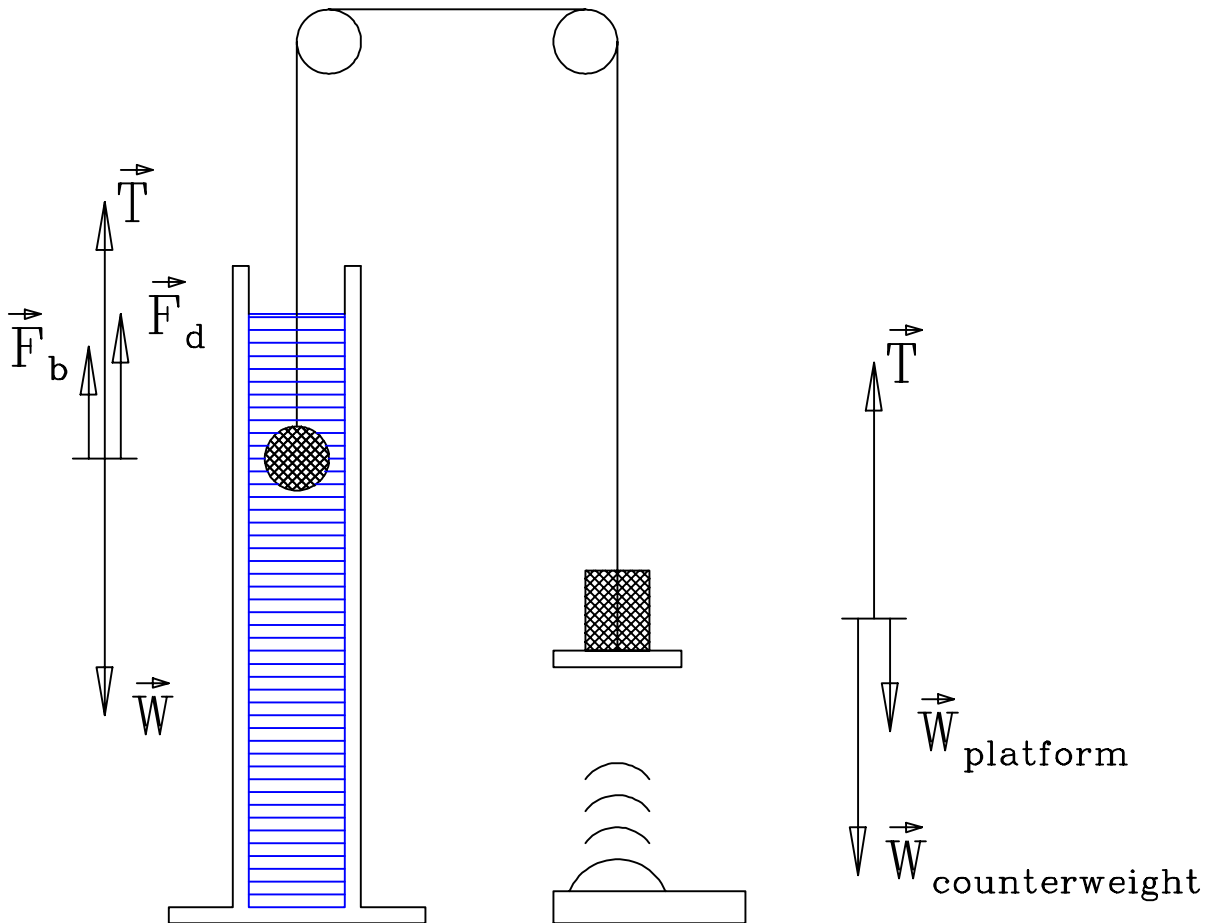

Figure 6.2: The apparatus for measuring the drag force of the fluid on a moving sphere
- From the free-body diagram of Fig.6.2, drawn for the case of the sphere traveling downward as appropriate for the small pull mass of the counterweight, when  $v = v_t = \text{const}$ ,
- Repeat for the sphere traveling upward; you need to re-draw the free-body diagram of Fig.6.2 as appropriate for this case. Remember that the drag force is always opposite to the velocity of the